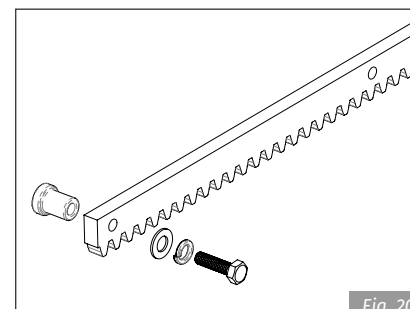

Fig. 20
- Do not, on any occasion, weld the rack elements either to the spacers. For fixing these, use screws and washers like in the Fig.20.